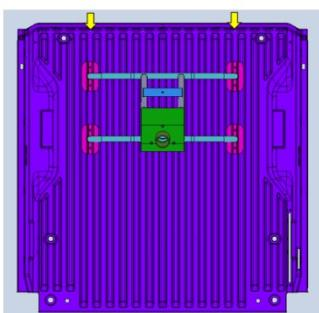

Fig. 2-1
- (b) Install the tire carrier centered on the vehicle bed as shown. Align the mount brackets into the bed grooves with the drain holes. (Figs. 2-1)